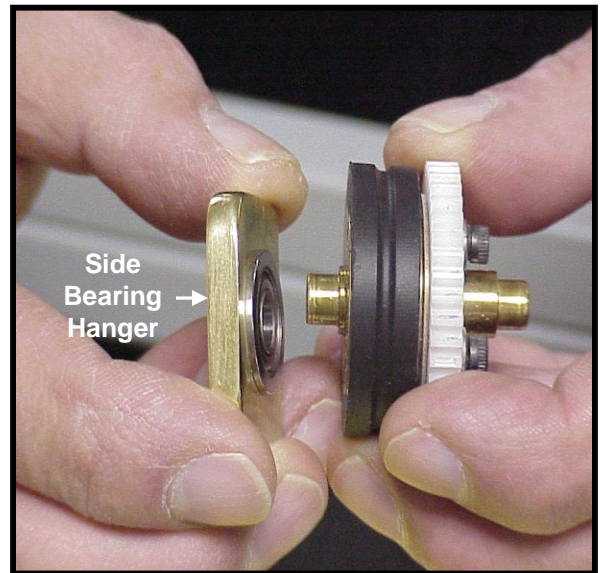

Figure 41
13.5.2.6 Slide Drive Wheel-side Bearing Hanger off the hub shaft. See Fig. 41.